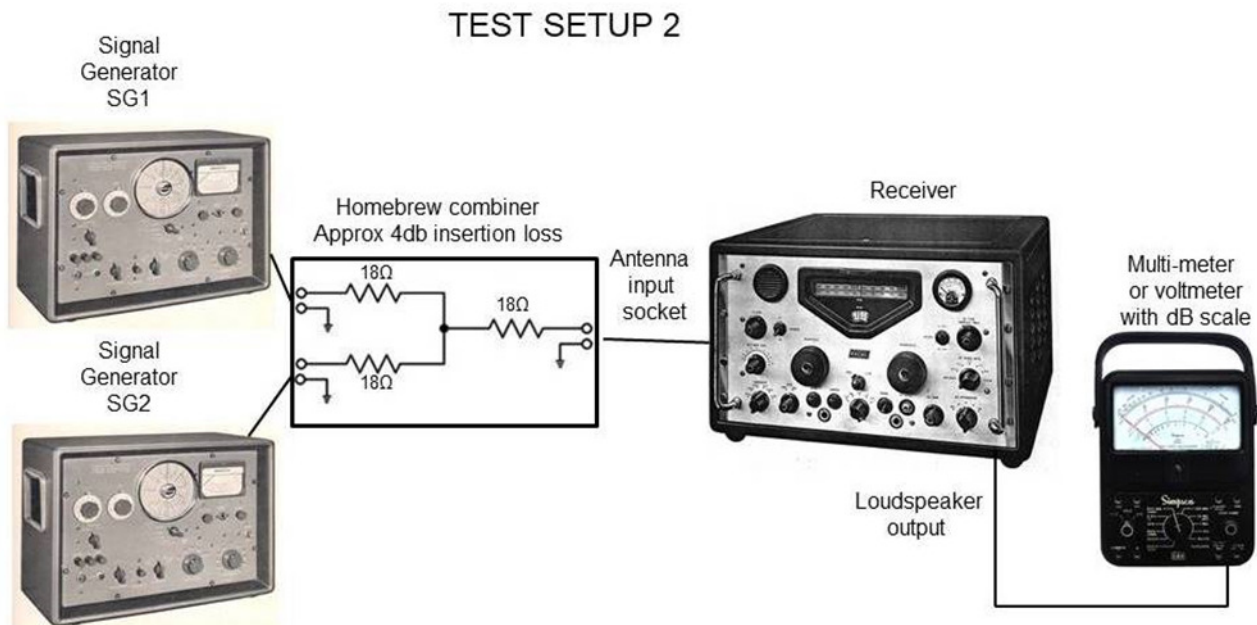

Figure 2
4.1 Connect the equipment as in figure 2.
7.1 Connect the equipment as in figure 2.
8.1 Connect the equipment as in figure 2.